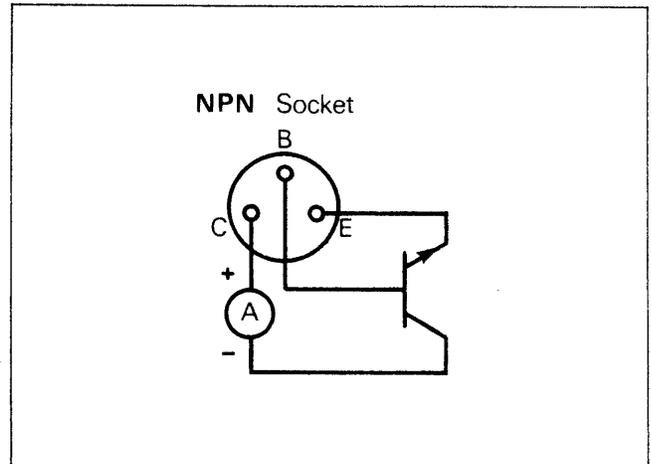

Fig. 12. Field calibration, f_T circuit.
- (b) Insert NPN Transistor into front panel transistor socket labeled NPN (16).
- (c) Place current meter in series with the collector lead. (See Fig. 12.)